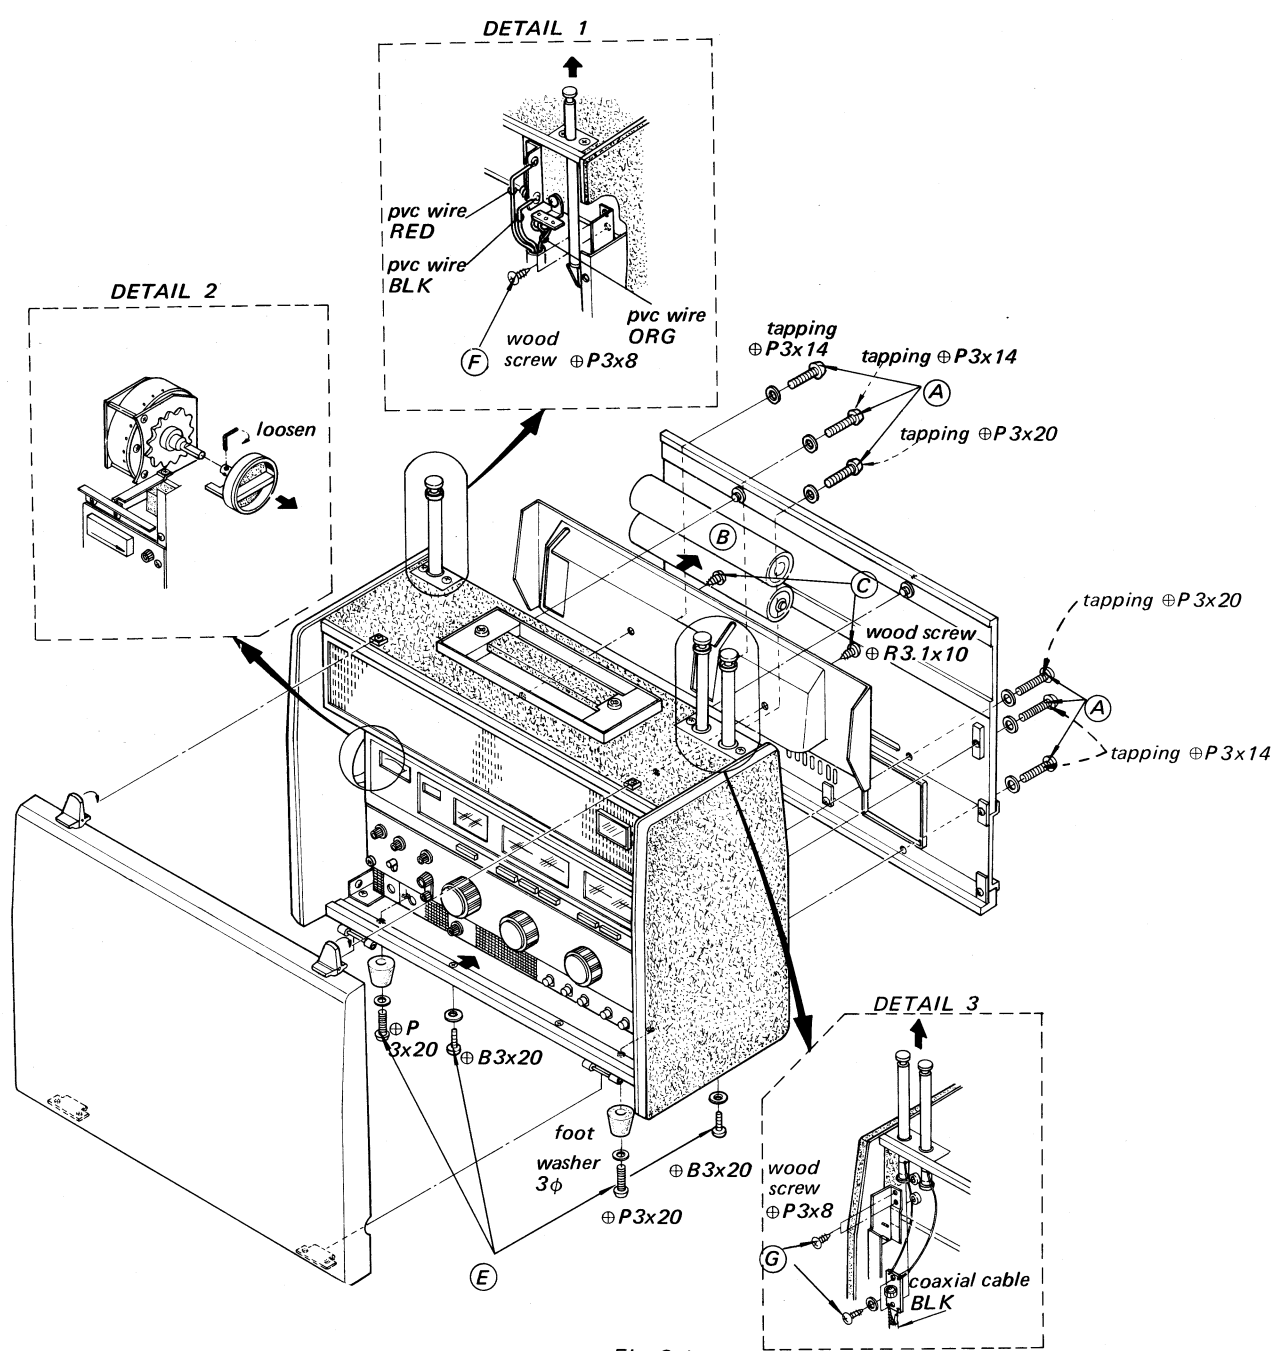

Fig. 2-1.
1. Remove the six screws marked **(A)** in Fig. 2-1.
3. Remove the two wood screws marked **(C)** in Fig. 2-1.
1. Remove the four screws marked **(E)** in Fig. 2-1.
3. Remove the six screws marked **(F)** and **(G)** in details (1) and (3) of Fig. 2-1.
4. Unsolder the coaxial cable and the three lead wires shown in details (1) and (3) of Fig. 2-1.
5. Loosen the three set screws fixing band selector knob shown in detail (2) of Fig. 2-1 and pull off the band selector knob.